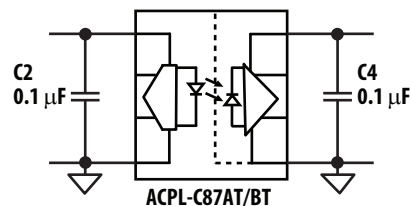

Fig 29. Bypass Capacitors C2, C4
0.1 μ F bypass capacitor must be connected as near as possible between V_{DD1} to GND1 and V_{DD2} to GND2 (Figure 29).